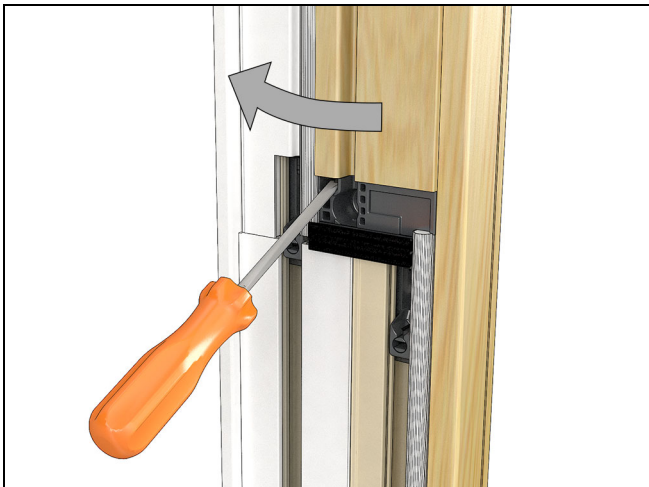

Figure 29
2. Remove the interior wood cover using a flat blade screwdriver, carefully pry wood cover loose from provided recess on top side of jamb receiver. See Figure 29.